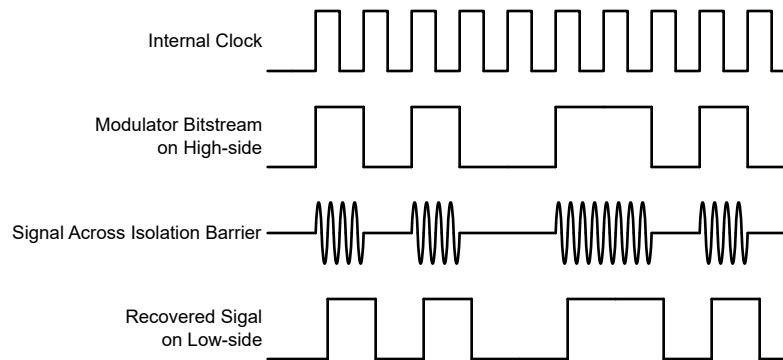

Figure 6-1. OOK-Based Modulation Scheme
As shown in Figure 6-1, the AMC0380D uses an on-off keying (OOK) modulation scheme to transmit the modulator output bitstream across the SiO₂-based isolation barrier. The transmit driver (TX) is illustrated in the Functional Block Diagram. TX transmits an internally generated, high-frequency carrier across the isolation barrier to represent a digital one. However, TX does not send a signal to represent a digital zero. The nominal frequency of the carrier used inside the AMC0380D is 480MHz.